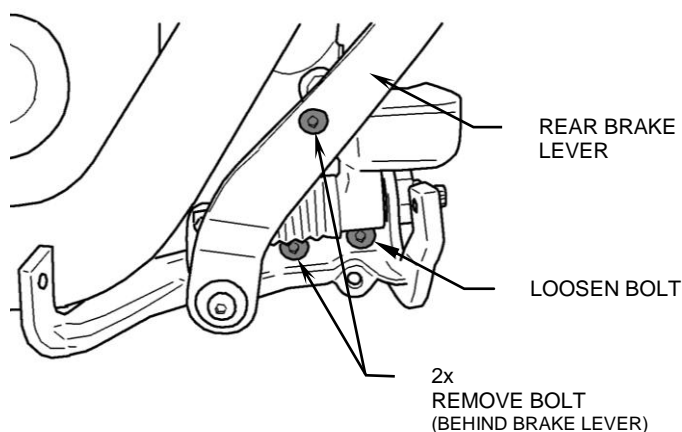

FIGURE 1
1. Unplug O2 sensors on front and rear headpipes from motorcycle wire harnesses. Remove stock exhaust system. On FLSTC, FLSTN, FLSTF, and FXSTSC, remove the right floorboard. Remove the two floorboard mounting bracket bolts leaving the third in place but loosen and rotate mount down out of the way, (See Figure 1.) This will make installation of exhaust and heatshields possible.